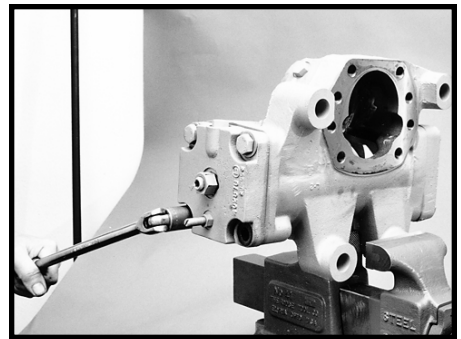

Figure 56
16. Remove the four end cover bolts (41) with a 13/16 inch socket and remove four washers (40). SEE FIGURE 56.